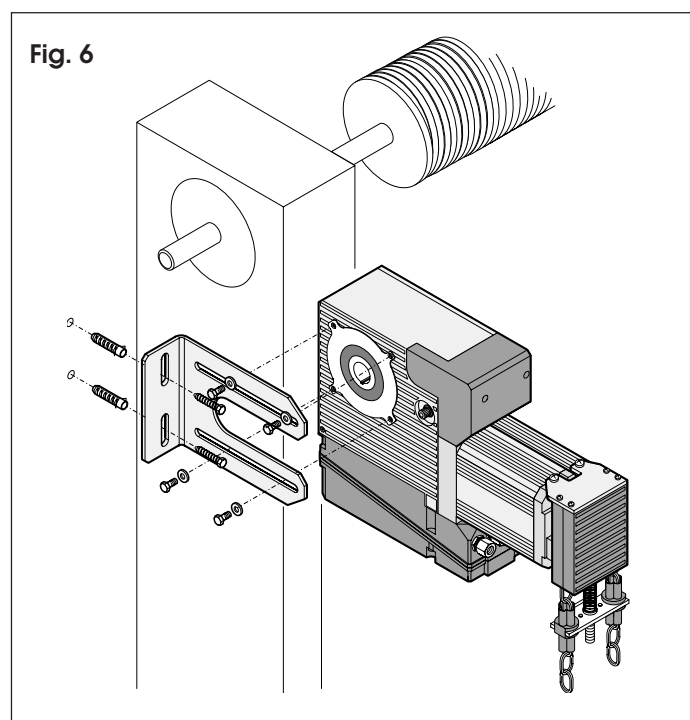

Fig. 6
- Position the operator (see paragraph 5.1) and rest the plate on the support (wall or metal structure) on which you have decided to secure it (see figure 6.).